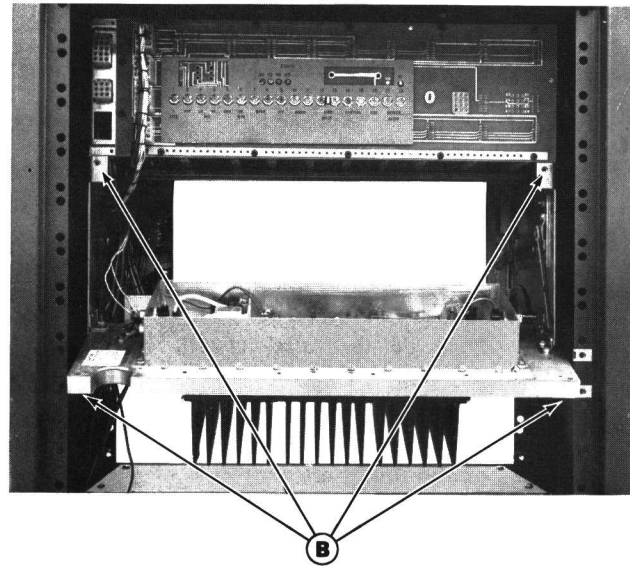

Figure 6 - Access to Power Amplifier, Rear View
1. Remove the top two screws (B) on the Intermittent or Continuous Duty Power Amplifier. Refer to Figure 6.